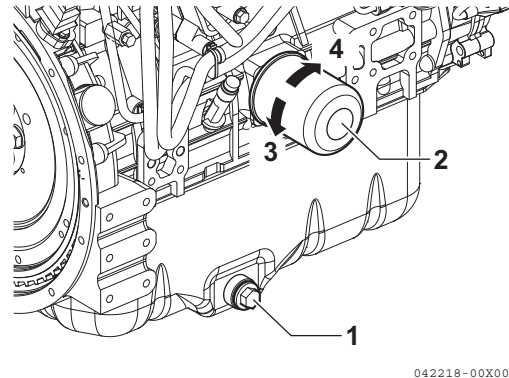

Figure 5-2
6. Remove the oil drain plug (**Figure 5-2, (1)**) from the engine oil pan. Allow oil to drain.
7. After all oil has been drained from the engine, reinstall the oil drain plug (**Figure 5-2, (1)**) and tighten to 39.8 - 47.0 ft-lb (53.9 - 63.7 N·m; 5.5 - 6.5 kgf·m).
1. Turn the engine oil filter (**Figure 5-2, (2)**) counterclockwise (**Figure 5-2, (3)**) using a filter wrench.
3. Lightly coat the gasket on the new oil filter with engine oil. Install the new engine oil filter manually by turning it clockwise (**Figure 5-2, (4)**) until it contacts the mounting surface. Tighten to 14 - 17 ft-lb (19.6 - 23.5 N·m; 2.0 - 2.4 kgf·m) or one additional turn using the filter wrench.